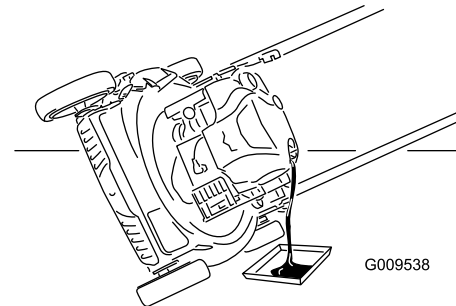

Figure 27
7. Tip the machine onto its side, with the oil-fill tube down, to drain the used oil through the oil-fill tube into the oil-drain pan (Figure 27).